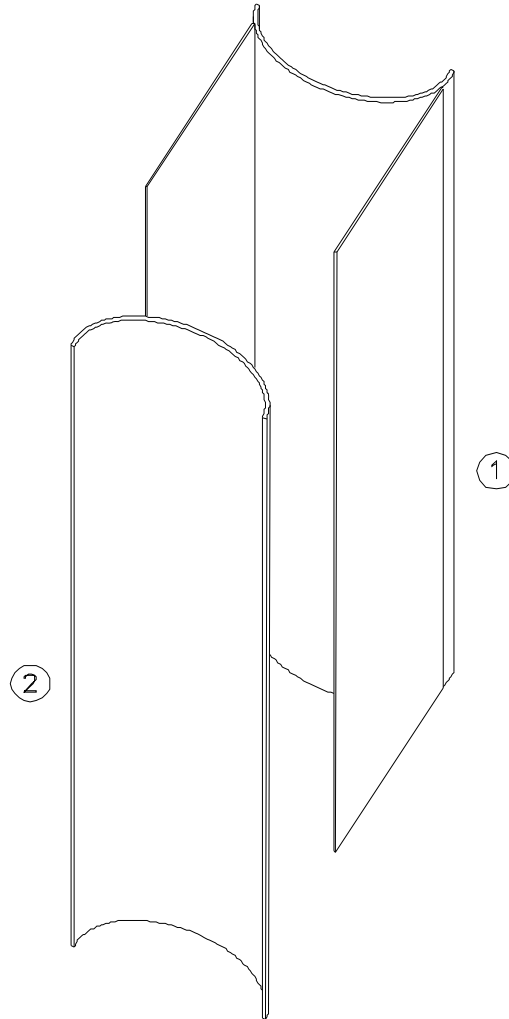

Figure 1
2. Secure the MetaMat™ to the wall parallel to the joint using the factory provided anchors and washers. For gypsum / stud construction, ensure that the fasteners anchor through the steel stud. Anchors should be spaced 2" (51mm) from the end of the MetaMat™, with each successive anchor spaced at 10" (254mm) O.C. (Fig. 1)
These instructions are applicable to MetaMat fire barrier models fabricated for single side of wall installation. The MetaMat is illustrated in Figure 1. Use the appropriate joint cover system installation instructions for installation of the joint cover.